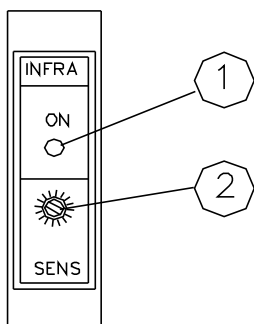

fig. 10
- with the paper in that position turn the potentiometer 2 anti-clockwise with a small screwdriver (fig. 10), until the yellow led 1 is on;